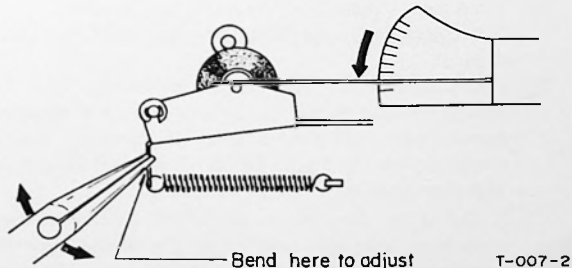

Fig. 4-1 Pinch Roller Pressure Measurement
3. Attach the spring scale to the Pinch Roller shaft as shown in Fig. 4-1.